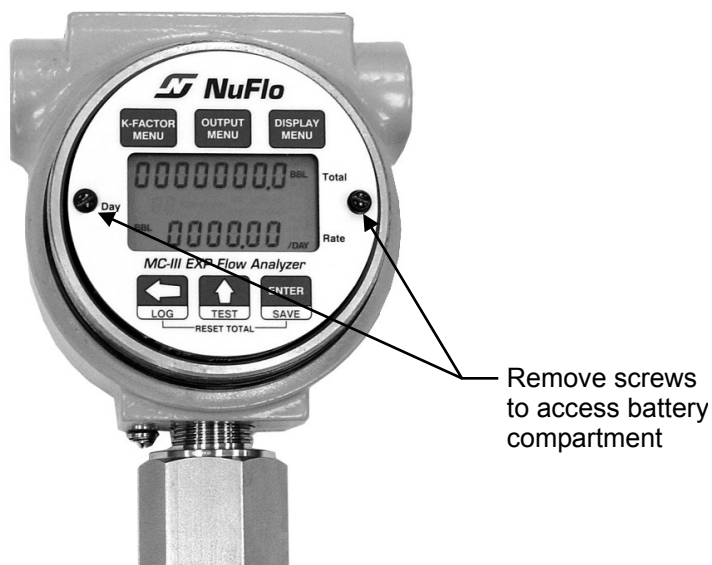

Figure 6.1— Removal of faceplate/keypad assembly
2. Using a small standard blade screwdriver, remove the two #4-40 × 7/8" screws located to the right and left side of the display (Figure 6.1, page 92).